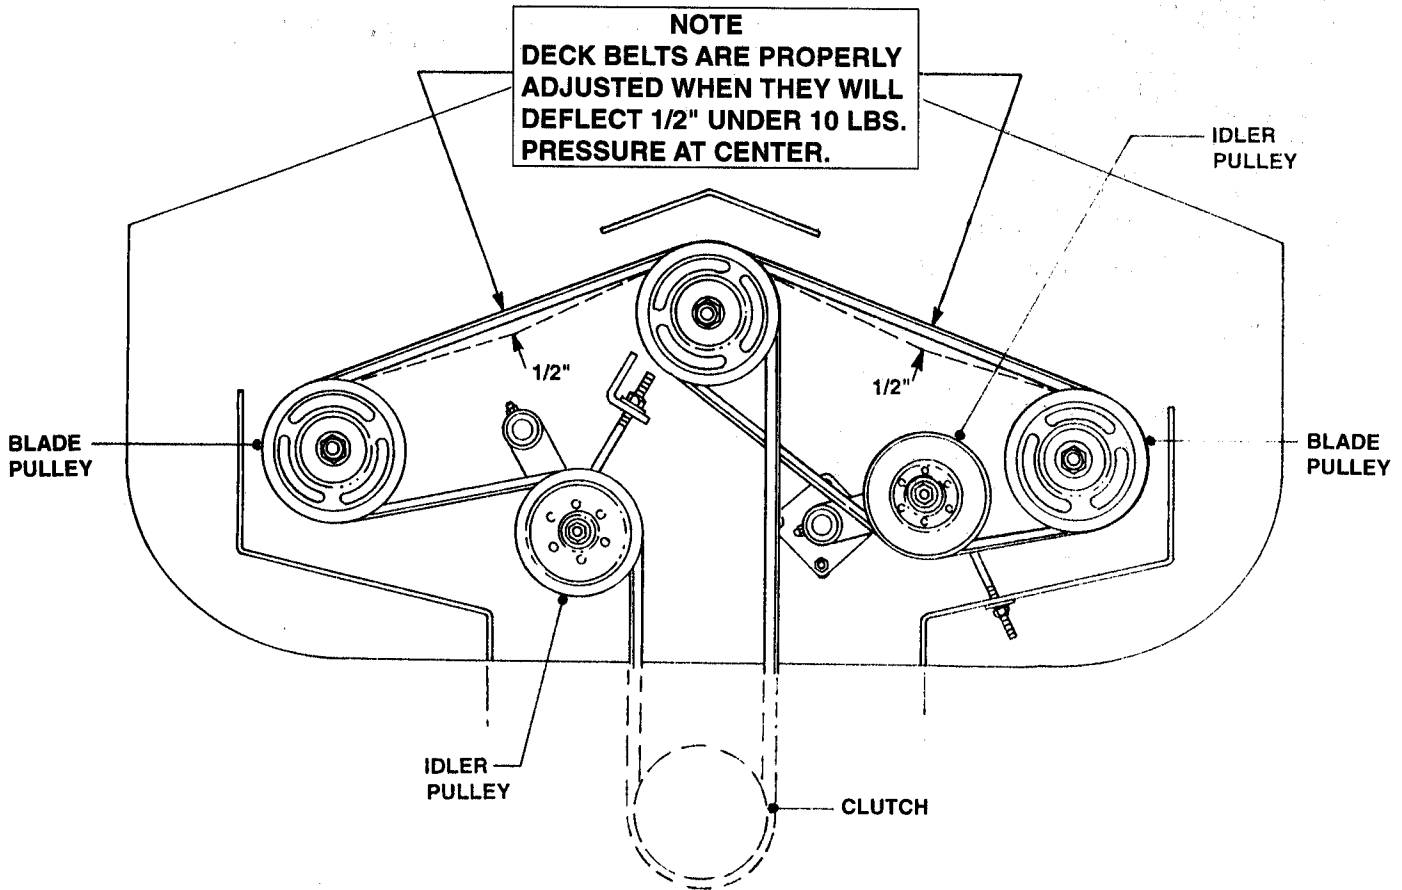

FIGURE 9
- D. Place belt around clutch and in pulley groove. Assure that the belt is seated properly in the blade pulley grooves. See Figure 9.